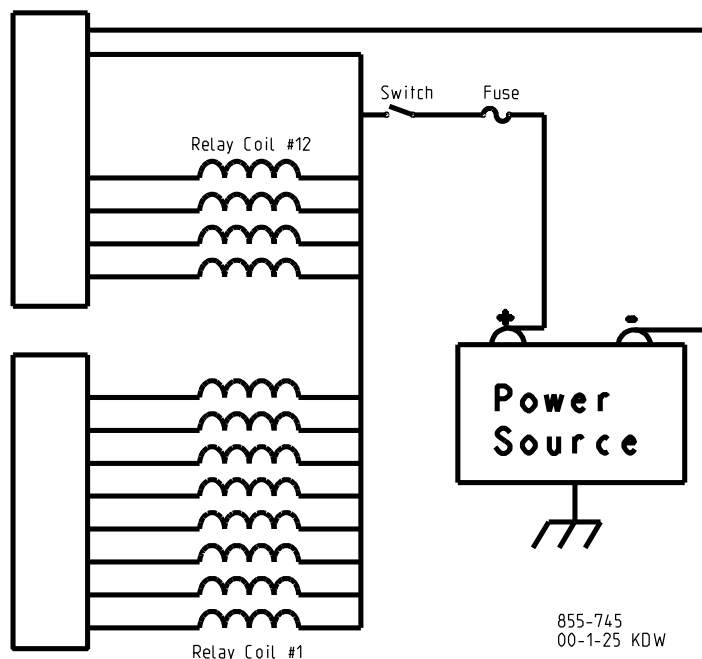

Figure 3-2. Discrete Output Wiring Example
When used in a Class I, Div. 2 or ATEX application the Power Supply used to provide the +12/24Vdc Relay Driver Input Voltage must be listed to the appropriate Hazardous Location or ATEX standard. The power input must be isolated from the Chassis and a minimum of 500Vac as shown in Figure 3.2.
- Refer to Figure 3-2 for discrete output wiring.